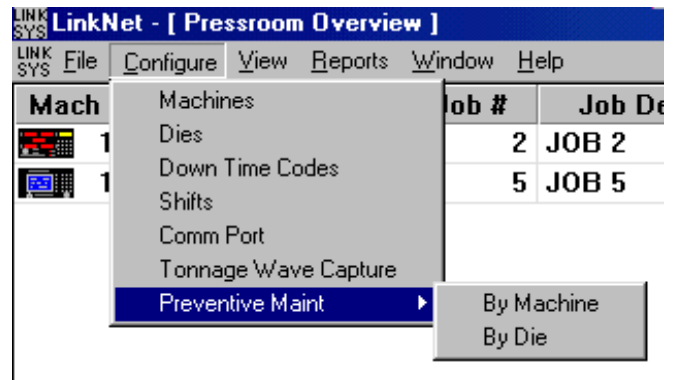
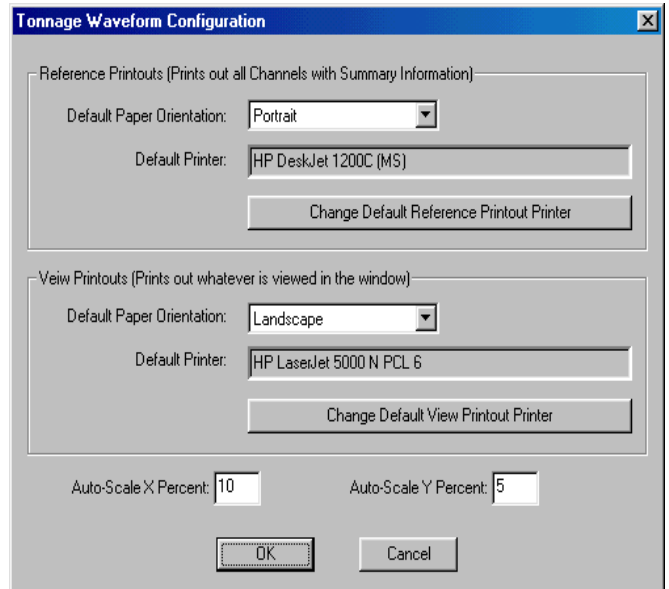
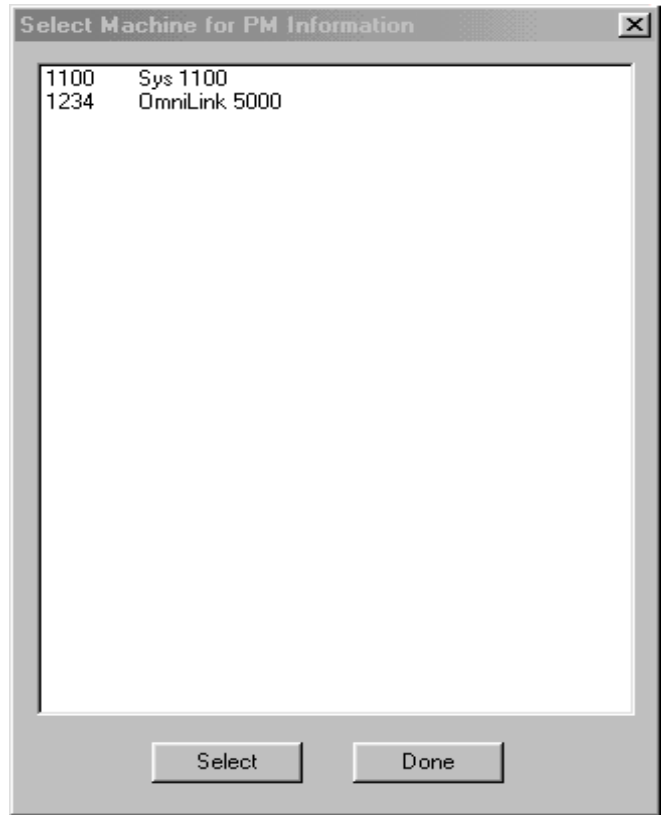

Figure 3.1: Configuration Menu
Figure 3.12: Tonnage Waveform Capture Config
Figure 3.13: PM Machine List
Select “Configure” and then “Comm Port” from the menu in LinkNet as shown in Figure 3.1 and a dialog box similar to Figure 3.2 should appear. Note that only comm ports that are not currently in use (by anything other than LinkNet itself) show up in the list. Pick the comm port that will be used by LinkNet from the list and click on the “OK” button.
To configure shifts, select “Configure” and then “Shifts” from the LinkNet menu as shown in Figure 3.1. A dialog similar to Figure 3.3 should appear.
To configure down time codes, select “Configure” and then “Down Time Codes” as shown in Figure 3.1. A dialog box similar to Figure 3.4 should appear.
When the machine numbers of each unit connected to the network have been entered, LinkNet must be told what they are. Select “Configure” from the main LinkNet menu as shown in Figure 3.1, then select “Machine” and a dialog box similar to Figure 3.6 should appear.
To configure dies select “Configure” and then “Dies” as shown in Figure 3.1. A dialog box similar to Figure 3.9 should appear.
LinkNet has tonnage signature capture built in. In fact, the system can be set up so that tonnage monitor equipped presses can print a waveform right from the press. To do this, LinkNet needs to know the orientation (portrait or landscape) of the paper and the printer to use. Select “Tonnage Wave Capture” from the “Configure” menu as shown in figure 3.1 to bring up the dialog box of figure 3.12.
Select "Preventive Maint" from the "Configure" menu as seen in figure 3.1. A sub-menu with "By Machine" and "By Die" will appear. Select the desired sub-menu and the dialog of figure 3.13 should appear.
To edit a PM item, select “Preventive Maint” from the “Configure” menu as seen in figure 3.1. A sub-menu with “By Machine” and “By Die” will appear. Select the desired sub-menu and a dialog similar to figure 3.13 should appear. This dialog shows a list of all machines or dies depending on the menu selection. Select the machine or die for which a PM item is to be configured and hit the “Select” button. A dialog similar to figure 3.14 should appear. Select a PM item to edit and hit the “Change PM Item” button. The dialog of figure 3.15 should appear. The limit and value units are the only information that can be changed in this dialog. If a PM item needs to be renamed, it must be deleted and re-added with the new name (this is to keep the database consistent when tracking PM history).
To reset a PM Item, select “Preventive Maint” from the “Configure” menu as seen in figure 3.1. A sub-menu with “By Machine” and “By Die” will appear. Select the desired sub-menu and a dialog similar to figure 3.13 should appear. This dialog shows a list of all machines or dies depending on the menu selection. Select the machine or die for which a PM item is to be configured and hit the “Select” button. A dialog similar to figure 3.14 should appear. Select a PM item to reset and hit the “Reset PM Item” button. A message box will appear to asking to verify that the item is to be reset. Hit “Yes” to reset the item, and “No” to cancel the operation.
If a PM item no longer needs to be monitored, it may be deleted. To delete a PM Item, select “Preventive Maint” from the “Configure” menu as seen in figure 3.1. A sub-menu with “By Machine” and “By Die” will appear. Select the desired sub-menu and a dialog similar to figure 3.13 should appear. This dialog shows a list of all machines or dies depending on the menu selection. Select the machine or die for which a PM item is to be configured and hit the “Select” button. A dialog similar to figure 3.14 should appear. Select a PM item to reset and hit the “Delete PM Item” button. A message box will appear to asking to verify that the item is to be deleted. Hit “Yes” to delete the item, and “No” to cancel the operation.
**Mach Descrip** - The machine description as set in the machine information dialog box of Figure 3.12.
**Status** - The status of the press. This is “Production” if the press is running normally, “Press Idle” if the press has exceeded the idle timeout (set in the machine information dialog of Figure 3.12) without making a stroke, a DTC description if the operator has selected a DTC, or the current status of the machine for OmniLink 5000 controls (the same current status as given in